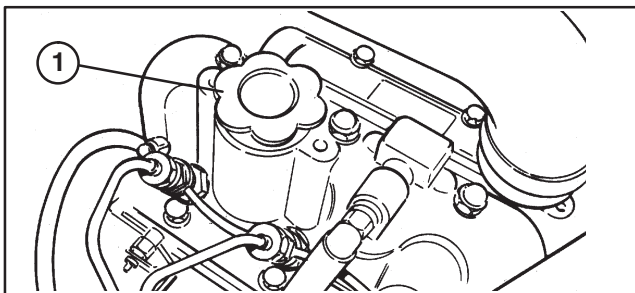

Figure 18
3. If oil level is low, remove oil fill cap (Fig. 18) and gradually add small quantities of oil, checking level frequently, until level reaches FULL mark on dipstick.